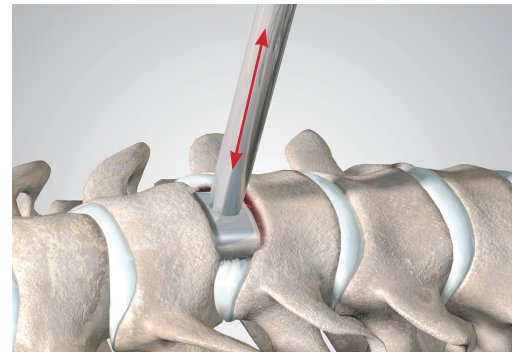

Figure 4
- ▲ Select the appropriate sizer by footprint, height and lordotic angle (Fig. 4). Height, footprint, and angle measurements are clearly marked on the sizers.